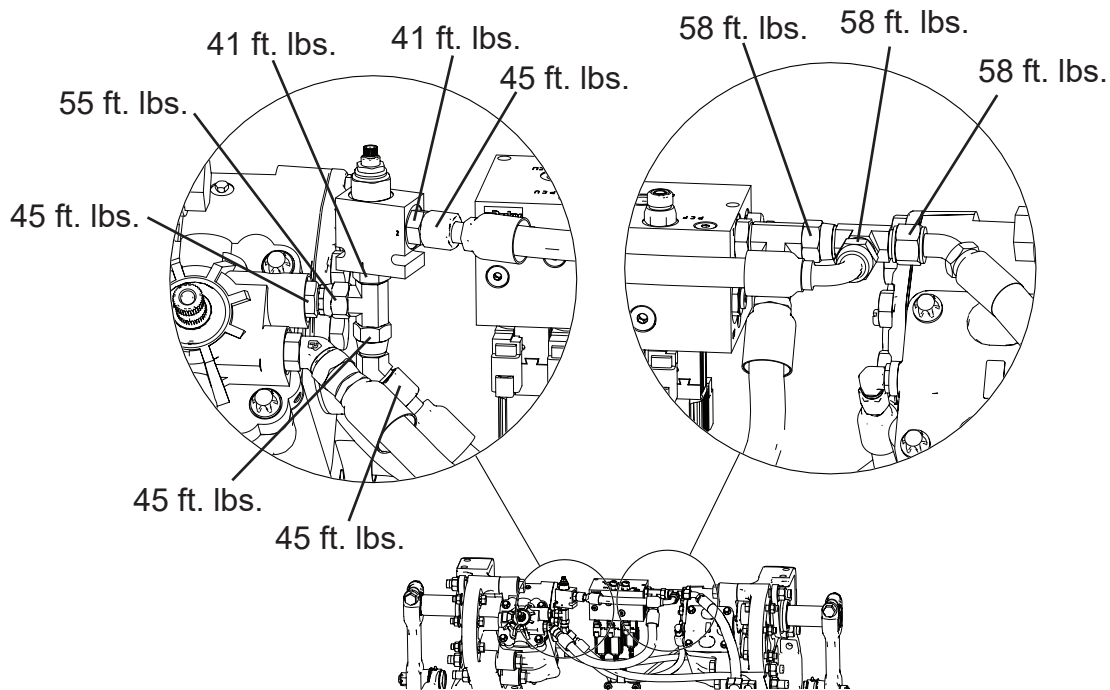

Figure 6
18. Final torque all components. See Figure 6.